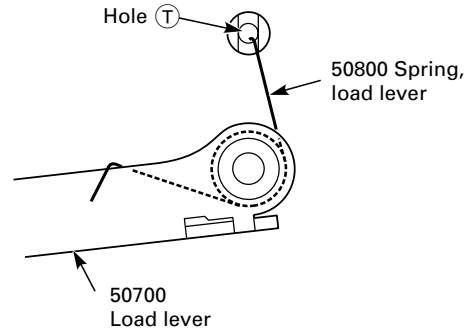
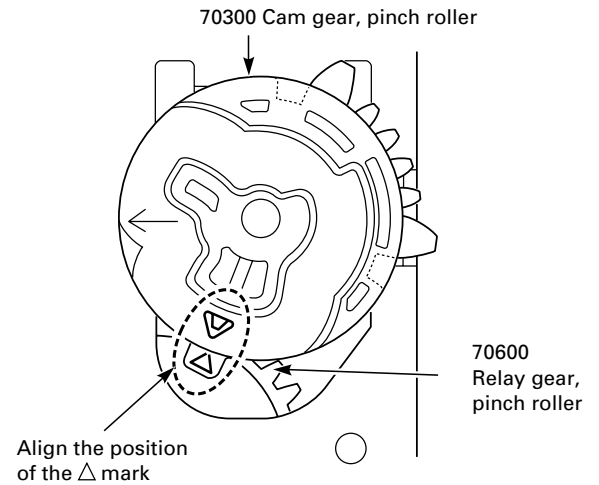

Fig. 8.30
Fig. 8.31
**Note:** Insert one end of the load lever spring (Pos. 50800) into hole (T) of the mechanism chassis and hook the other end to the load lever (Pos. 50700) as shown in Fig. 8.30. Position the cam gear of the pinch roller (Pos. 70300) and the relay gear of the pinch roller (Pos. 70600) as shown in Fig. 8.31.